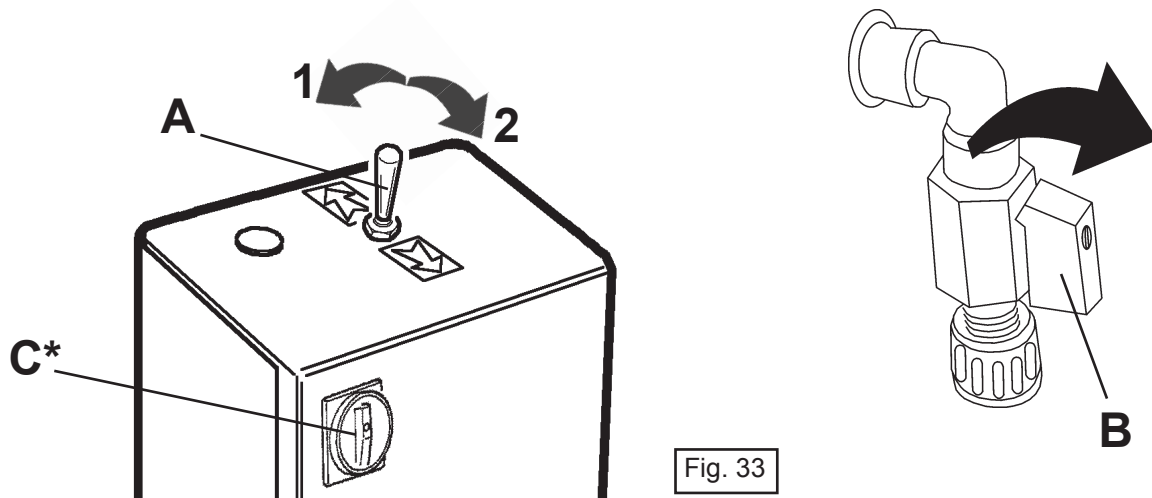
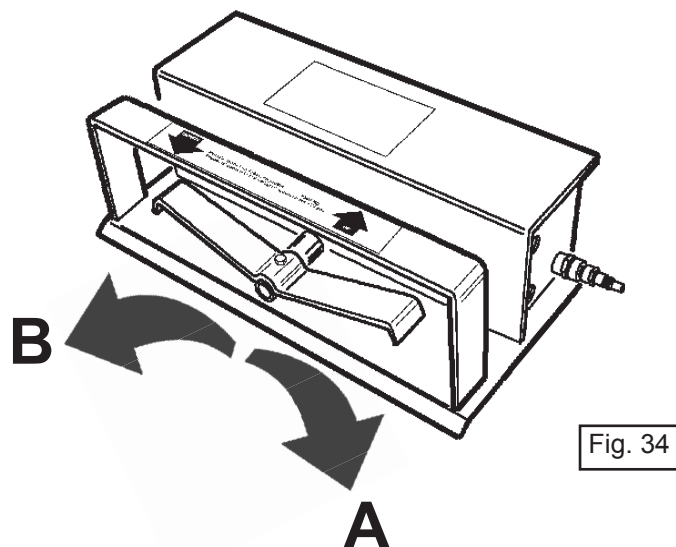

Fig. 33
Fig. 34
Press the UP selector once briefly; the drive shaft must turn and the lift must go up (fig. 33 page 28).
Let the lift go up completely by turning the “UP” selector “A” (fig. 33 page 28) for 3-4 seconds, in order to aid bleeding of the remaining air from the hydraulic circuit.
1) Description of the control panel (fig. 33)
2) Description of the pedal unit (Fig.34)
Press the UP button (**A1** fig. 33 or **A** fig 34)
Press the DOWN button (**A2** fig. 33 or **B** fig. 34) to lower the lift.